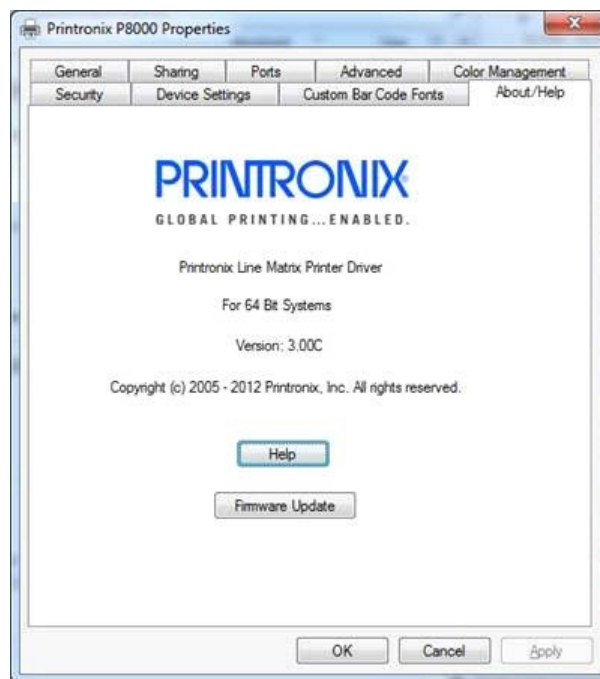

Figure 28 Updating Firmware
5. Click the **Firmware Update** button as in Figure 28.